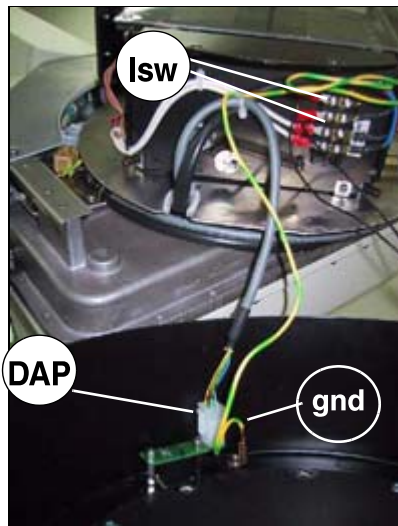

Fig. 21: Terminals in the cover
- ⇒ Turn the cover and remove the connections: DAP plug; light switch, ground wire (Fig. 21 / p. 54).